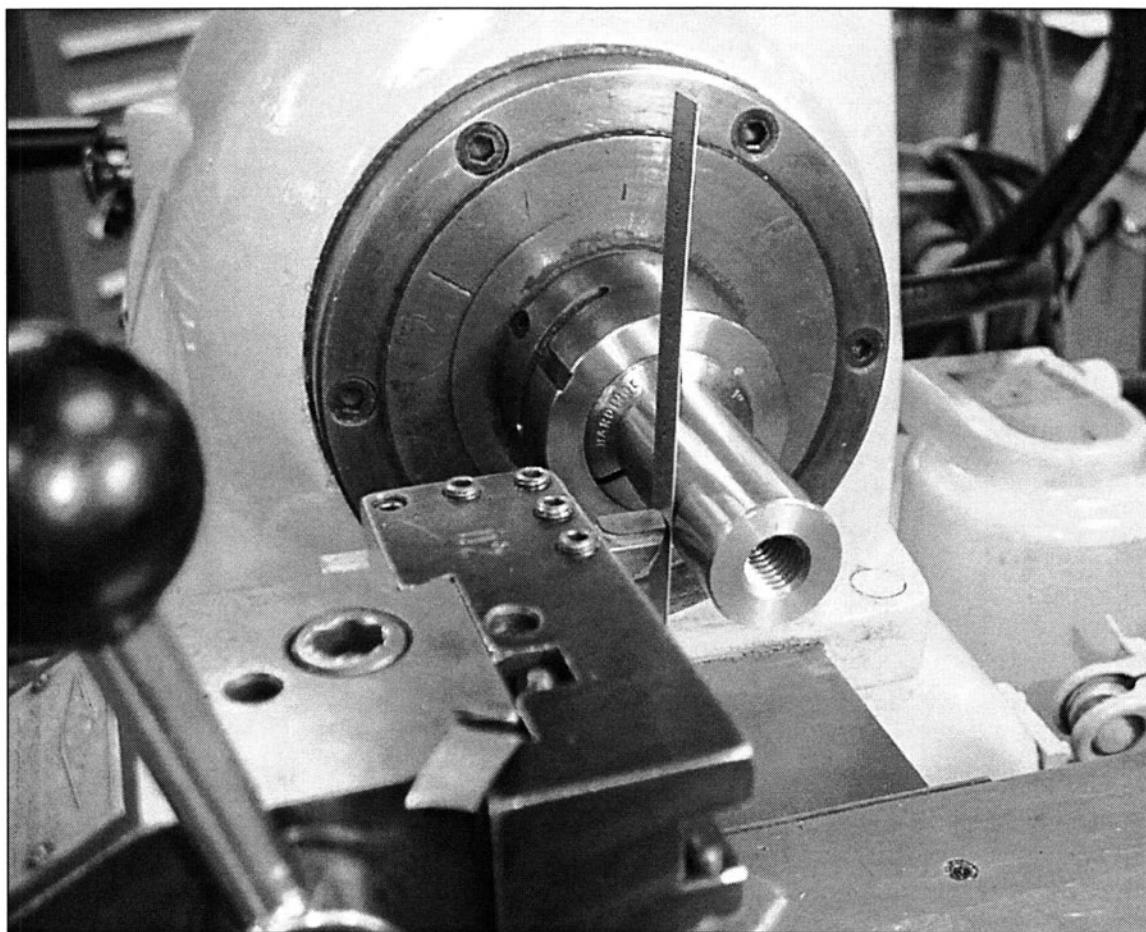

FIGURE 6-9 A six inch scale is used to set a lathe tool on center.
14. Set lathe tools on center with a scale. (See Fig. 6-9)